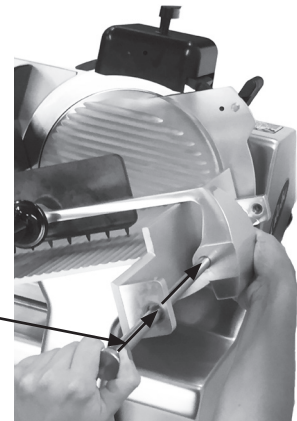

Figure 14-3
5. Reinstall end weight. Align end weight with chute and insert end weight slide rod through chute and end weight (Fig 14-3). Allow end weight to rest on chute and securely screw in end weight slide rod to slicer chute. Refer to Inspection, Simple Maintenance, and Repair section for instructions on how to lubricate the end weight slide rod.